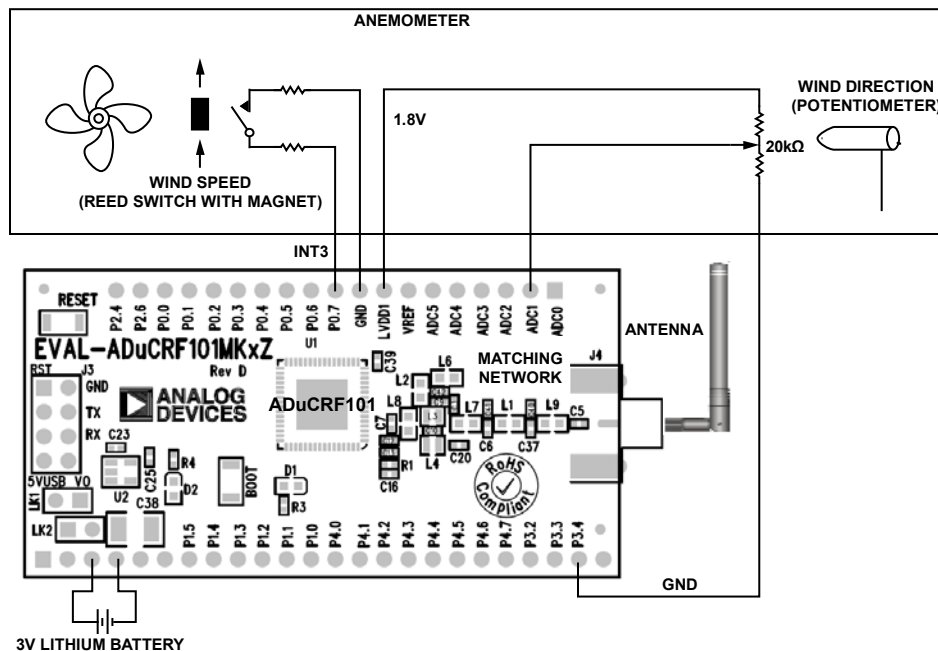

Figure 1. Wireless Wind Speed and Direction Data Acquisition System Functional Block Diagram (Simplified Diagram: All Connections and Decoupling Not Shown)
The circuit in Figure 1 is a battery powered precision analog microcontroller circuit with an integrated RF ISM-band transceiver used to transmit wind speed and wind direction from a passive anemometer. In the application shown, the on-chip 12-bit analog-to-digital converter (ADC) and the wake-up timers are used to acquire the wind direction and speed, respectively. The low power hibernate mode is used to conserve power, which is important in wireless remote sensing applications. When in hibernation mode, the ADuCRF101 nominally consumes 1.9  $\mu$ A of supply current, resulting in long battery life. A single CR2032 lithium ion battery can last 1 year to 2 years when operated in this mode.
In the application shown in Figure 1, the 12-bit ADC and the wake-up timers are used to acquire the wind direction and speed, respectively. To conserve power, the low power hibernate mode is used. When in hibernate mode, the ADuCRF101 nominally consumes 1.9  $\mu$ A of supply current, resulting in long battery life. The functionality of the ADuCRF101 and its small 9 mm  $\times$  9 mm package size makes it a very easy-to-use and cost-effective solution in this and other wireless data acquisition applications.
The circuit in Figure 1 contains an EV-ADuCRF101MK3Z evaluation board which includes the ADuCRF101, a fully integrated wireless data acquisition solution. The function of the ADuCRF101 is to collect wind speed and direction information from an anemometer, and to transmit this information wirelessly to another ADuCRF101 that is in receive mode.
The EV-ADuCRF101MK3Z has been optimized for use in the 431 MHz to 464 MHz ISM band. This evaluation board allows easy access to the ADuCRF101 via through-holes on the edge of the board. More information on the EV-ADuCRF101MK3Z is available in the UG-231 User Guide. In this application, the evaluation board is interfaced to an anemometer. The anemometer can be connected via cables or through an adapter board (see Figure 1). A 3 V lithium CR2032 battery is used to power the evaluation board.
1. Connect the anemometer to the EV-ADuCRF101MK3Z evaluation board. Make the connections in accordance with Figure 1. It can be connected directly using cables to the edge vias on the evaluation board or through a mother board on which the evaluation board is mounted.